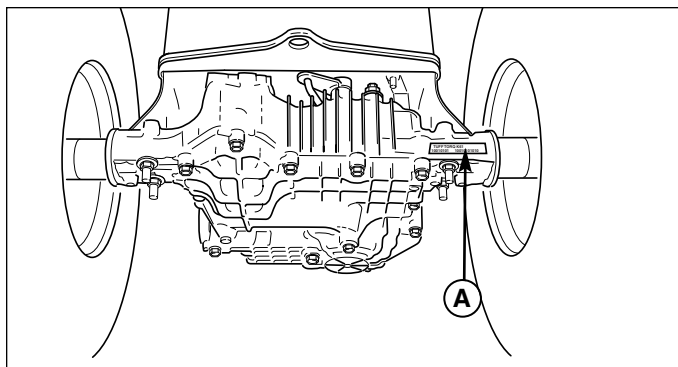

Figure 30 Transmission ID Tag Location
54" Mowers: Reinstall the spline washer (B, Figure 30), spring washer (C) and capscrew (D). Use a wooden block (A) to prevent blade rotation while tightening the capscrew (D) to 61-75 N.m (45-55 ft. lbs.).
Several service procedures within this book are identified by, and vary by, transmission type. To determine what transmission is in your tractor, check the identification tag attached to the axle of the transmission (Figure 30), or check your tractor's parts book.